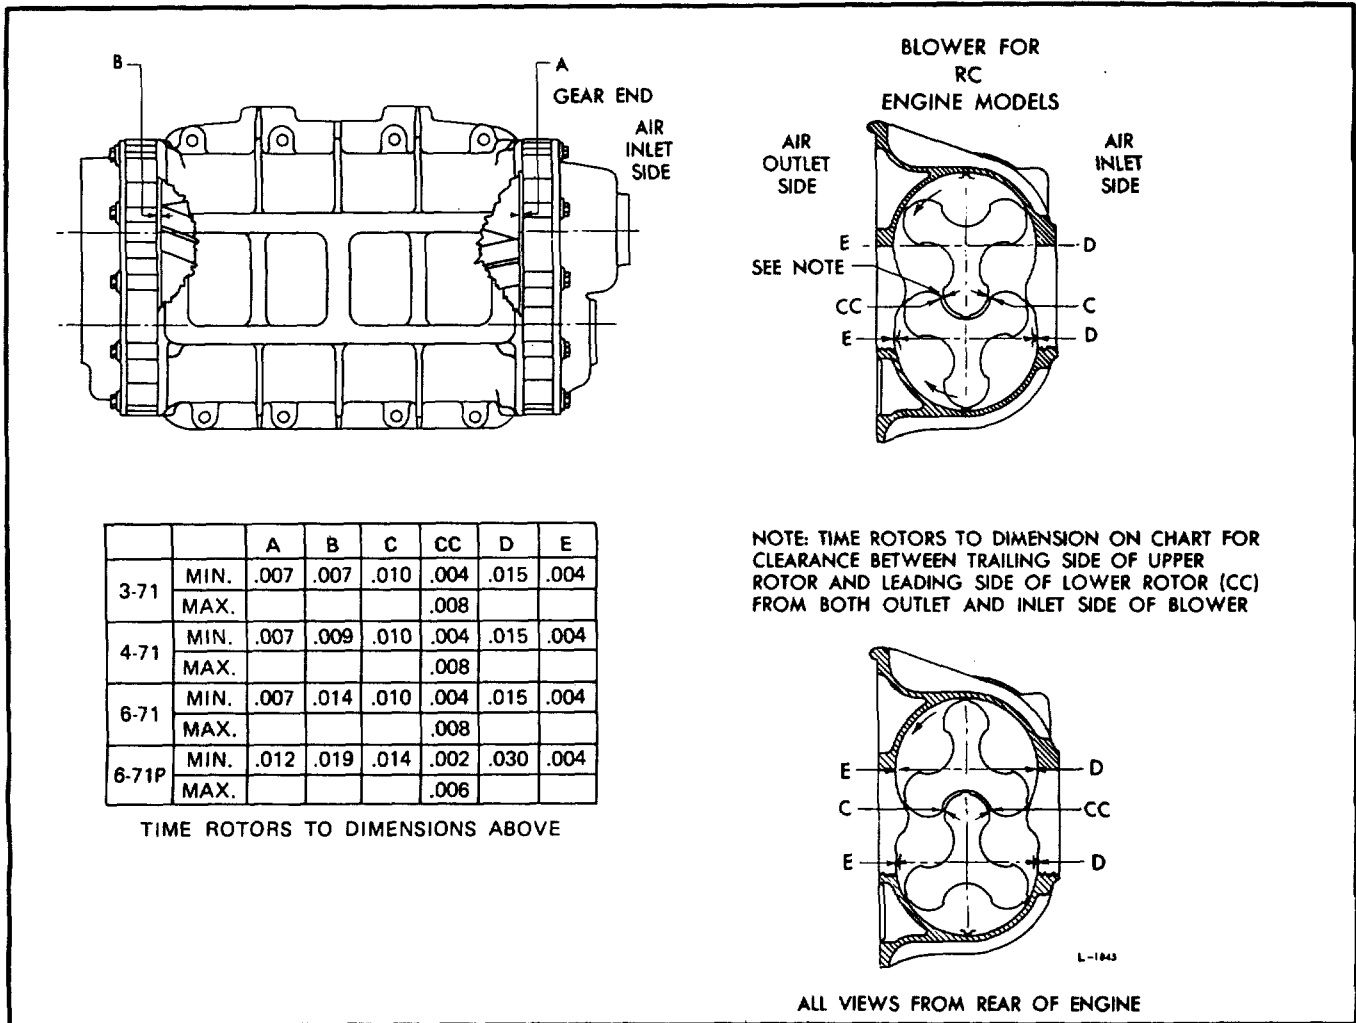
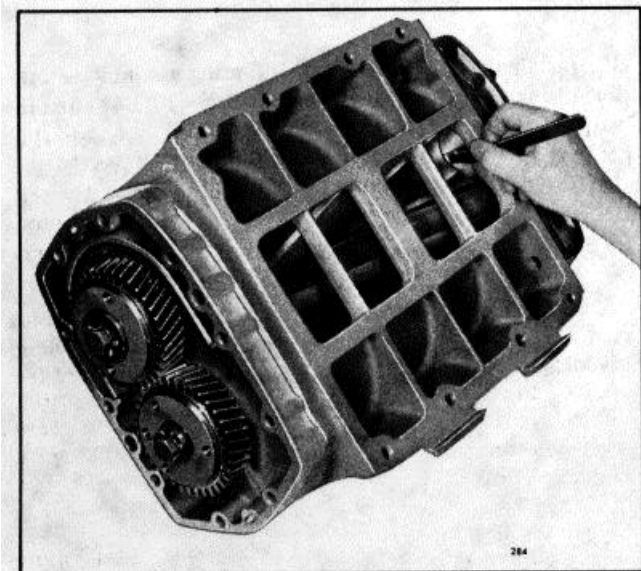

Fig. 17 - Chart of Minimum Clearances for Blowers.
Fig. 19 - Measuring End Clearance Between Blower Rotors and End Plate .
6. Make a preliminary check of the rotor-to-end plate and rotor-to-housing clearances at this time with a feeler gage as shown in Fig. 19. Refer to Fig. 17 for minimum blower clearances.
check the clearance between the **LEADING** edge of the **UPPER** and the **TRAILING** edge of the **LOWER** rotors ("C" clearance) for the minimum clearance shown in Fig. 17. Rotor-to-rotor measurements should be taken 1" from each end and at the center of the blower.
4. Determine the minimum clearances at points "A" and "B" shown in Fig. 17. Insert the feeler gages, as shown in Fig. 19, between the end plates and the ends of the rotors. This operation must be performed at the ends of each lobe, making twelve measurements in all. See Fig. 17 for the minimum clearances.
5. Check the clearance between each rotor lobe and the blower housing at both the inlet and outlet side -twelve measurements in all. See Fig. 17 for the minimum clearances.